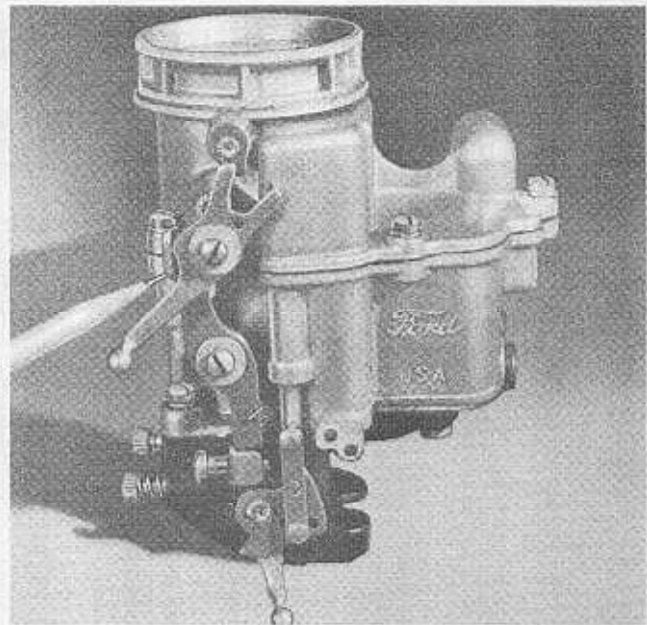

Fig. 43
**73** With full choke, be sure that cam on choke lever (78-9548) touches upper end of kicker (78-9598). If the portion of choke lever below cam, as indicated in Fig. 43, touches kicker, file lower edge of bent flange at upper end of kicker so it clears choke lever.
- (1) 78-9562 Drain plug